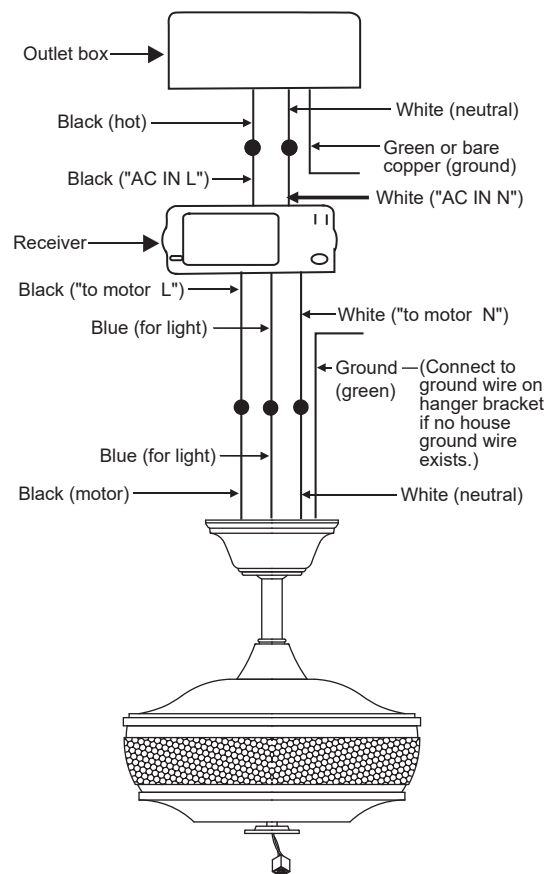

Fig. 14
Step 2. Motor to Receiver Electrical Connections: (Fig. 14) Connect the black wire from the fan to the black wire marked "TO MOTOR L" on the receiver. Connect the white wire from the fan to the white wire marked "TO MOTOR N" on the receiver. Connect the blue wire from the fan to the blue wire marked "FOR LIGHT" on the receiver. Secure all the wire connections with the plastic wire nuts provided.
Step 3. (Fig. 14) Receiver to House Supply Wires Electrical Connections: Connect the black (hot) wire from the ceiling to the black wire marked "AC in L" from the receiver. Connect the white (neutral) wire from the ceiling to the white wire marked "AC in N" from the receiver. Secure the wire connections with the plastic wire nuts provided.
Step 4. (Fig. 14) If your outlet box has a ground wire (green or bare copper) connect it to the fan ground wires; otherwise connect the hanging bracket ground wire to the mounting bracket. Secure the wire connection with a plastic nut provided. After connecting the wires, spread them apart so that the green and white wires are on one side of the outlet box and black and blue wires are on the other side. Carefully tuck the wire connections up into the outlet box.